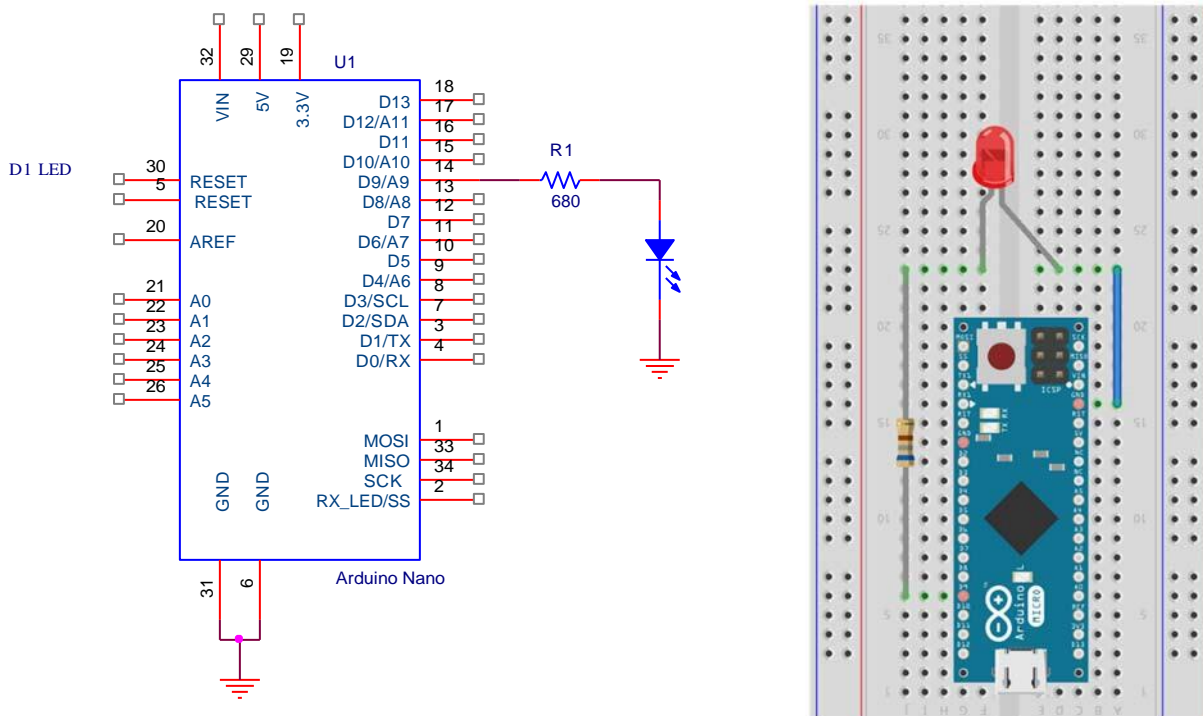

Figure 12. Schematic and breadboard layout for LED timer circuit
1. Build the circuit shown in Figure 12. The USB connector supplies 5 V and ground to the Arduino. The 5 V and ground are internally connected on the board and are accessed through the appropriate pins. This schematic symbol for the Arduino labels the pin numbers starting at the upper left pin (by the reset button) as pin 1 and counting down the left side of the Arduino and up the right side. Therefore, the lower left most pin is pin 17, the lower right pin is pin 18, and the upper right pin is pin 34.